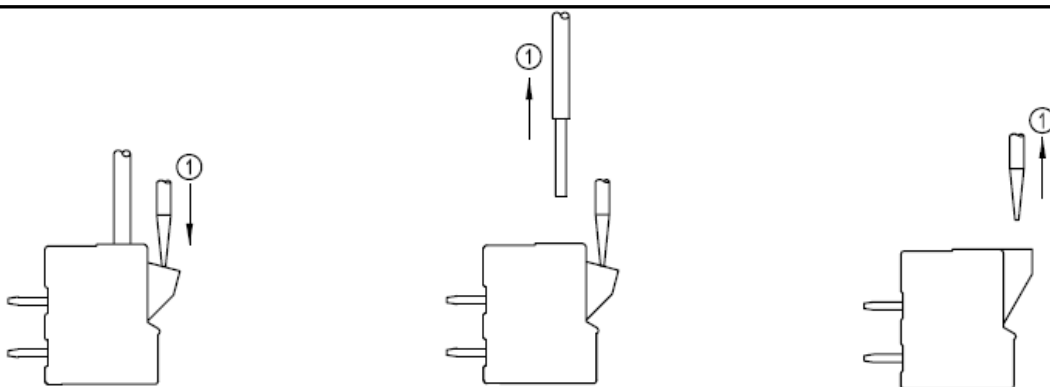

Figure 4
3. Wire Releasing: see Figure 4